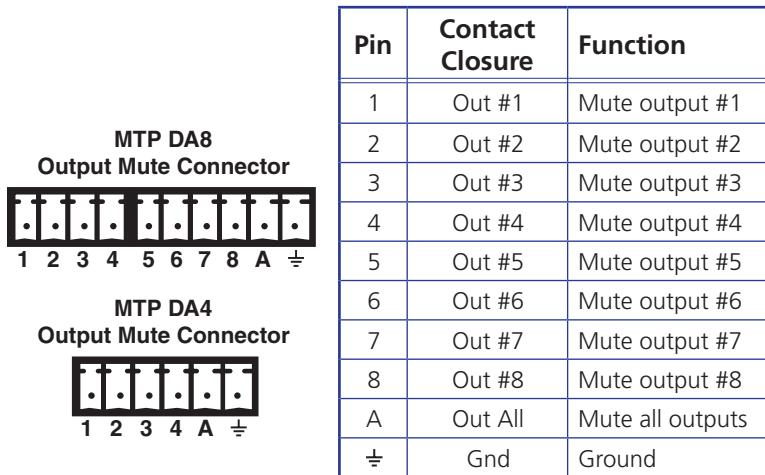

Figure 4. Mute Connector and Pinout
- ④ **Output Mute connections** — The Output Mute connector provides a way to mute (blank) any or all TP outputs. Each numbered pin of the captive screw connector is assigned to one of the DA outputs. Pin A is assigned to all DA outputs (see figure 4). When you short and latch a numbered pin or pins to ground, the DA mutes the associated outputs.